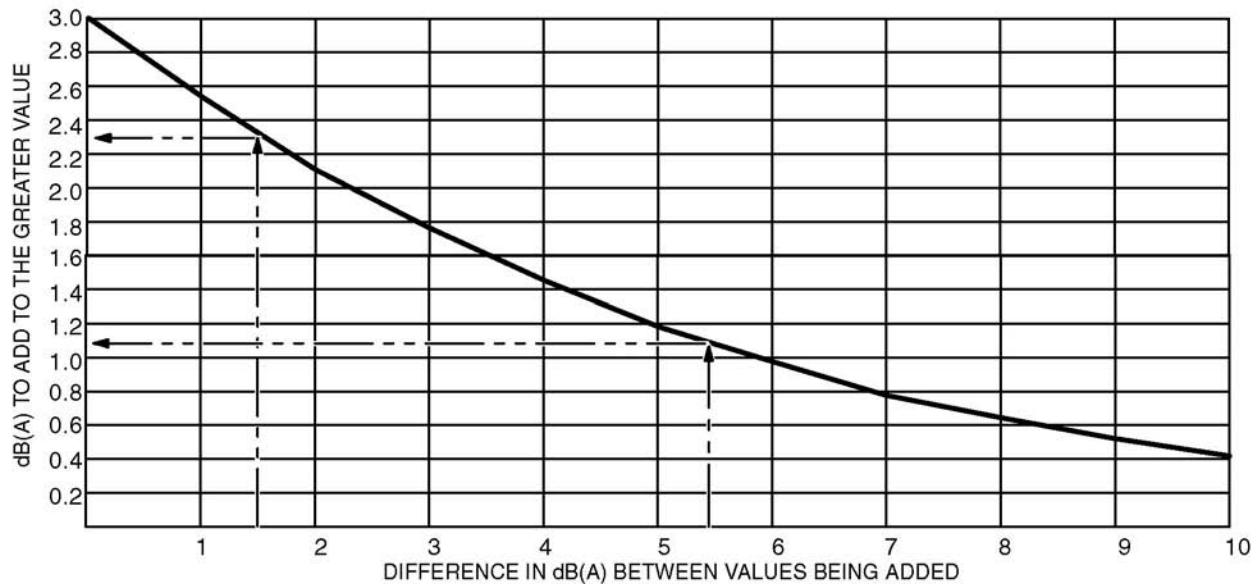

FIGURE 119. GRAPH OF VALUES FOR ADDING NOISE LEVELS
Figure 119 on page 228 can be used, as follows, to estimate the noise level from multiple noise sources:
- Subtract 90.5 dB(A) from 92 dB(A) for a difference of 1.5 dB(A). As the arrows show in Figure 119 on page 228, corresponding to the difference of 1.5 dB(A) is the value of 2.3 dB(A) which should be added to 92 dB(A) for a new value of 94.3 dB(A).
- Likewise, subtract 89 dB(A) from the new value of 94.3 dB(A) for a difference of 5.3 dB(A).
- Finally, add the corresponding value of 1.1 dB(A) to 94.3 dB(A) for a total of 94.4 dB(A).